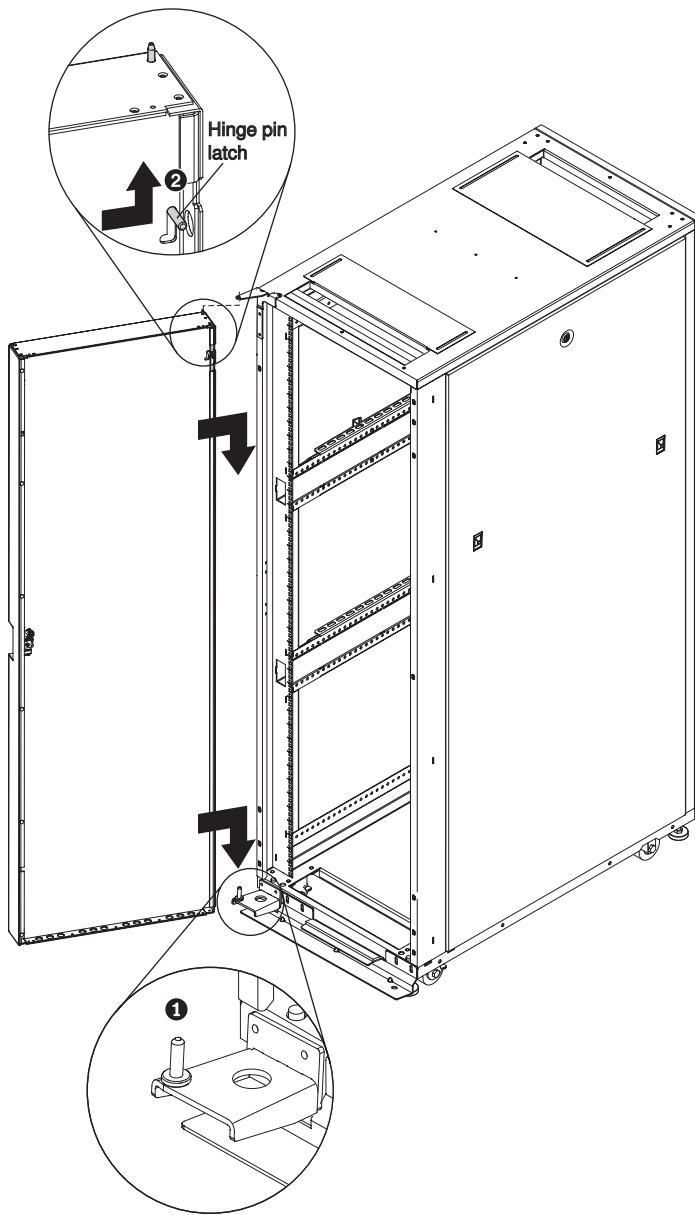

Figure 7. Installing the door on the top and bottom hinge brackets (all rack models)
8. Partially align the hinge pin at the top of the door with the hole in the top hinge bracket (see Figure 7). Push the hinge pin latch up and to the right to retract the hinge pin enough to go into the hole in the hinge bracket **2**. Move the hinge pin latch to the left and down to release the pin fully into the hole in the hinge bracket.